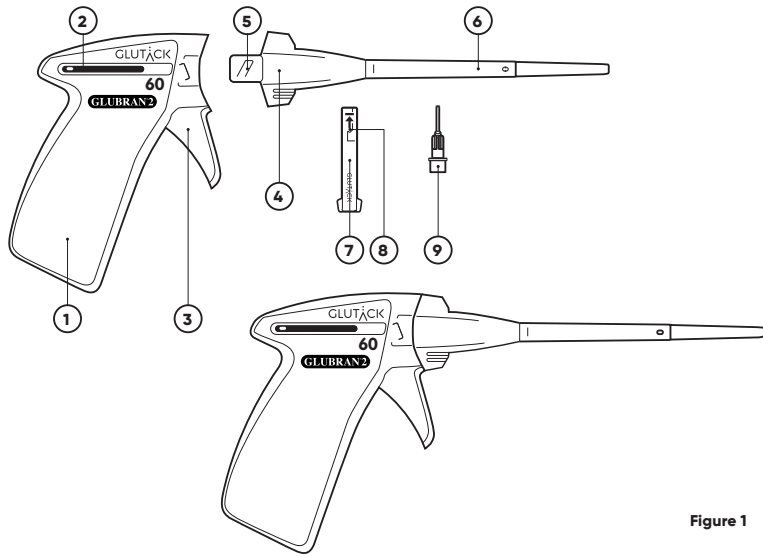

Figure 1
- **Handpiece** (Fig. 1, No. 1) with label stating the number of drops that can be dispensed; equipped with slider (Fig. 1, No. 2), which displays the amount of Glubran® 2 dispensed during the procedure, and trigger (Fig. 1, No. 3) connected to the gear that forms the calibrated drop delivery system.
- **coupling base** (Fig. 1, N°4) and chamber for housing the loading cartridge (Fig. 1, N° 5);
- **long polyethylene shaft**, 15 cm (Fig. 1, N° 6) containing a small tube that allows Glubran® 2 to pass through;
- **Cartridge** for Glubran® 2 made of transparent plastic (Fig.1,N°7), pre-printed with symbols showing the direction of insertion into the housing chamber and the loading level (Fig.1,N°8).
- **Transfer tip** to be used for loading the cartridge with Glubran® 2 (Fig.1,N°9).